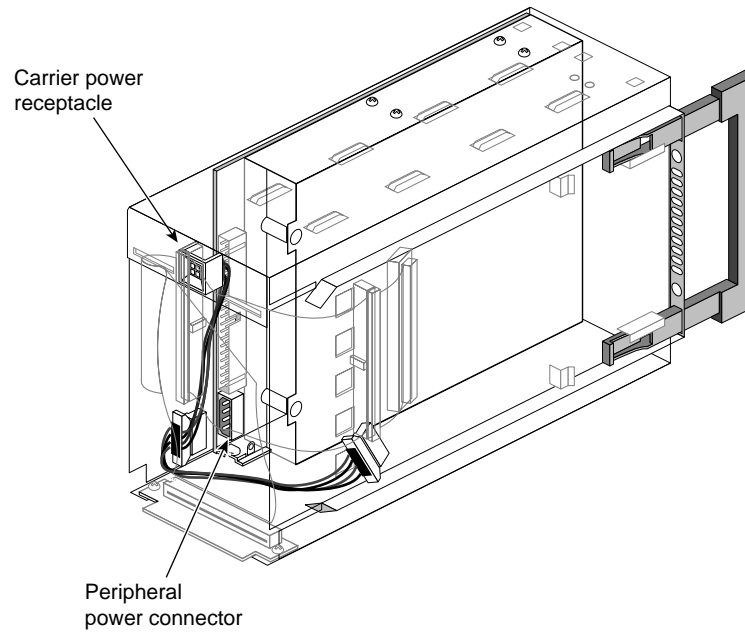

Figure 2-13 Attaching a Power Connector to a 5.25-inch Drive
5. Attach one of the power connectors at the rear of the carrier to the drive. Use whichever connector fits conveniently for the position of the drive's power receptacle. See Figure 2-13.